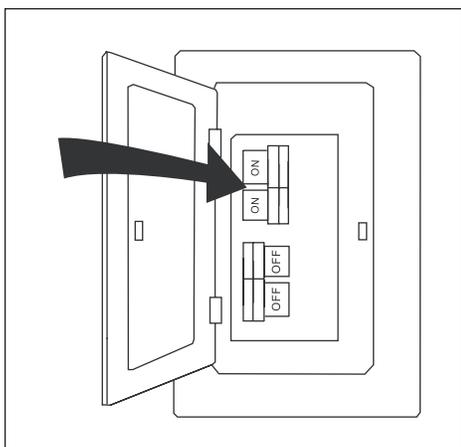

Figure 4.10
10. Turn on power to fan at breaker box and the wall switch. Assembly is complete (Figure 4.10).